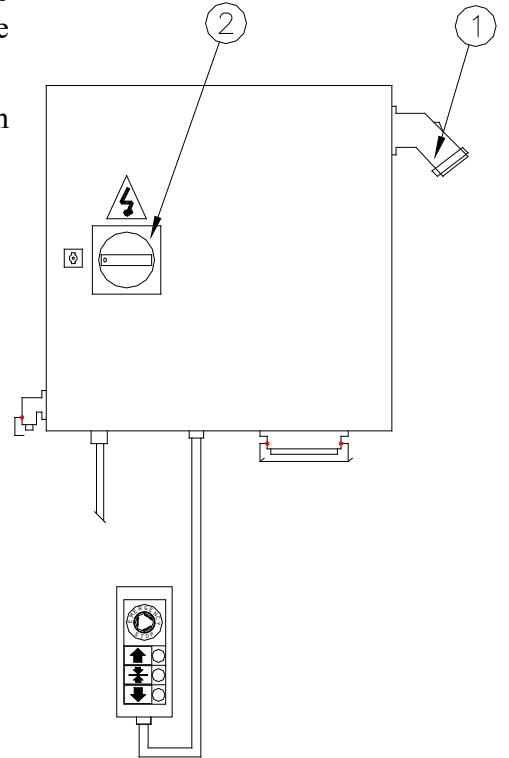

Fig.H.12 Base electrical box
43. Connect the inlet plug (1-fig.H.12), on the electrical box on ground frame of the machine to the landing site power supply.
44. Rotate the main switch on the electrical box on ground frame (2-fig.H.12), in '1' position.